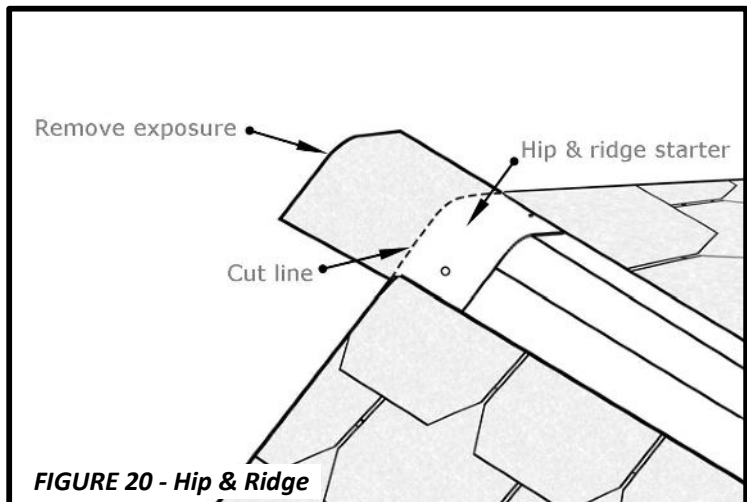
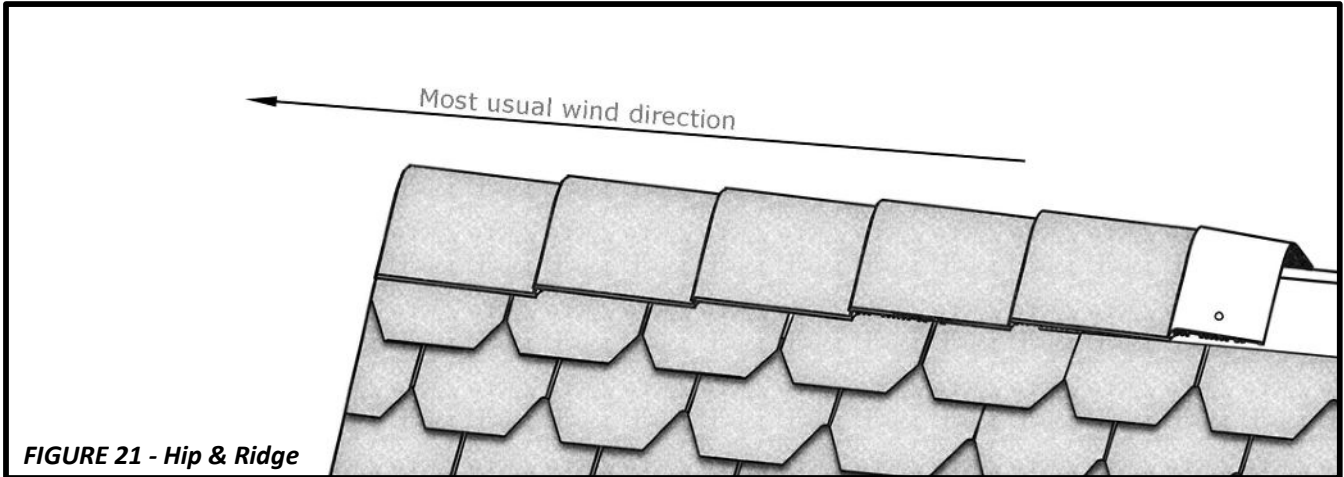

FIGURE 20 - Hip & Ridge
FIGURE 21 - Hip & Ridge
- Make a starter shingle by removing the exposure portion. See **Figure 20**. Install Hip and Ridge with a **7 3/4" (197mm) exposure**. At the ridge, start the hip and ridge shingles from the opposite direction of the prevailing winds. See **Figure 21**. Begin hips at the bottom of the hip. For further installation details about FWAVE Hip and Ridge, visit fwaverroofing.com.